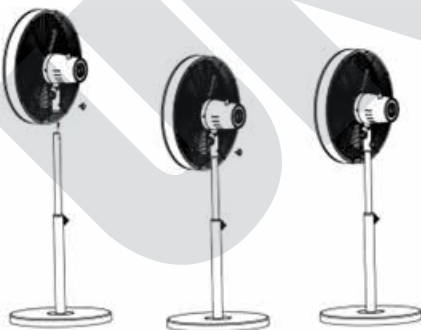

Fig. 3
8. Next, loosen locking screw No. 4. Insert the top side of the inner tube No. 5 into the tube of the fan head and straighten the fan head. The two holes in the tubes must line up on top of each other so that the locking screw can be screwed in. Tighten the locking screw to fix the fan head in place (Fig. 3).